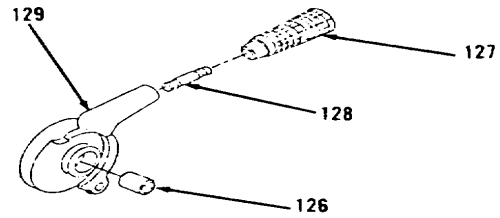
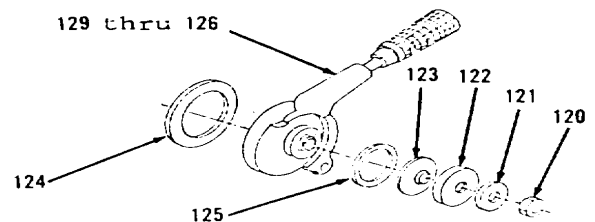
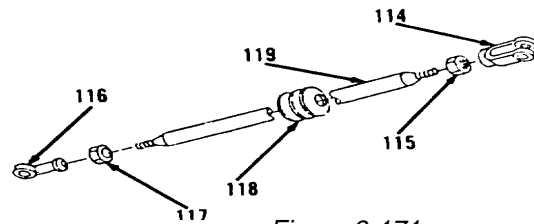
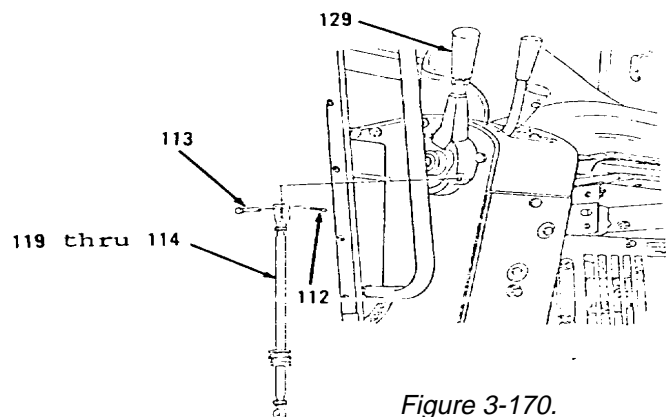

Figure 3-173.
Figure 3-172.
Figure 3-171.
Figure 3-170.
- 80. Remove and discard cotter pin (112, Figure 3-170) from right side of operator's control console in operator's compartment.
- 81. Remove pin (113).
- 82. Separate items 114 thru 119 as an assembly from handle (129).
- 83. Remove items 114 thru 119 as an assembly from vehicle.
- 84. Loosen nuts (115 and 117, Figure 3-171).
- 85. Remove rod end (114), nut (115), rod end (116), nut (117), boot (118) and rod (119).
- 86. Remove nut (120), washer (121), seat (122), six springs (123), washer (124), items 126 thru 129 as an assembly and disc (125, Figure 3-172).
- 87. Inspect bearing (126, Figure 3-173). Replace if cracked, broken or worn.
- 88. Using suitable driver and hammer, remove bearing (126), if necessary.
- 89. Remove handle (127) from stud (128).
- 90. Remove stud (128) from handle (129).
1. Using suitable driver and hammer, install new bearing (126, Figure 3-173), if removed, to right side of operator's console.
2. Install stud (128) in handle (129). Tighten stud (128) to 25 ft-lb torque.
3. Install handle (127) on stud (128).
4. Position disc (125), items 129 thru 126 as an assembly, washer (124), six springs (123), seat (122) and washer (121, Figure 3-172).
5. Install nut (120) loosely.
6. Position boot (118) on rod (119, Figure 3-171).
7. Install nut (117), rod end (116), nut (115) and rod end (114) on ends of rod (119).
8. Position items 119 thru 114 as an assembly through floor with rod end (114) positioned to eye of handle (129, Figure 3-170).
9. Install pin (113) and new cotter pin (112).